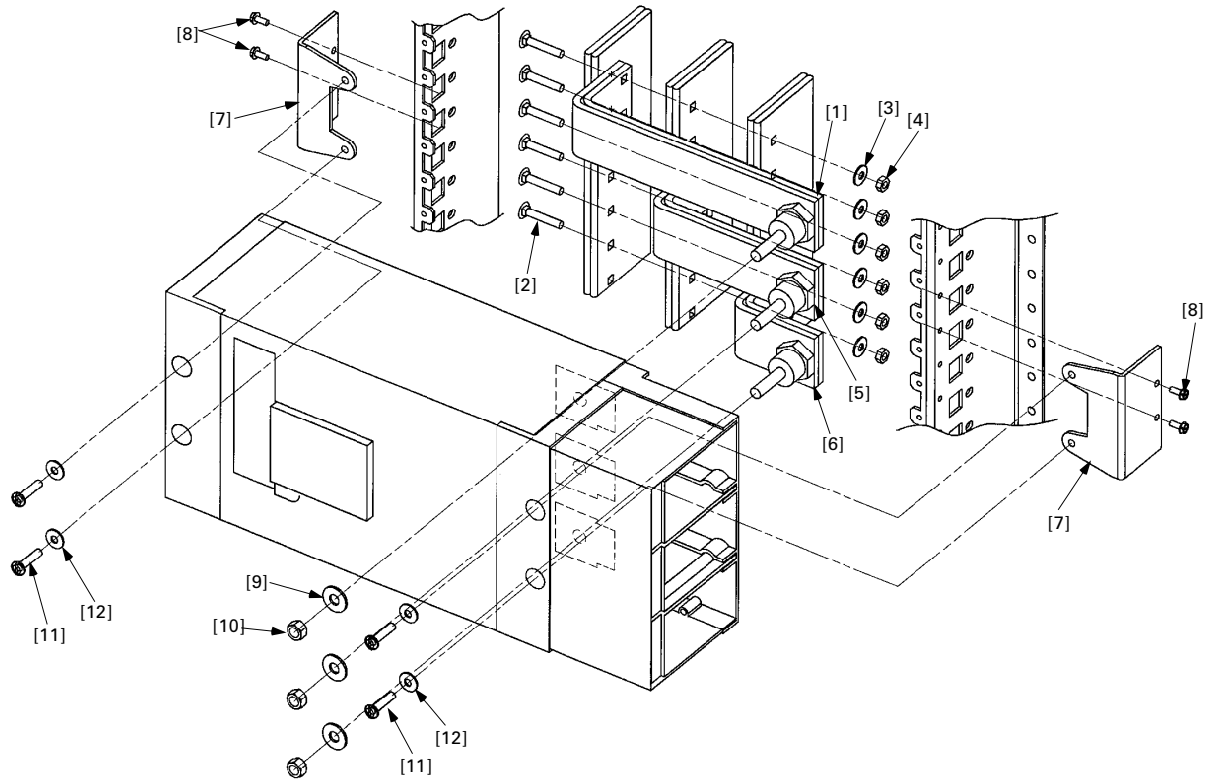

Figure 1. Mounting a K frame bolt-on circuit breaker, exploded assembly view.
- 3. Install the circuit breaker straps.** For three-phase applications (kit AMCB3KM), align the strap assemblies [1, 5, 6] with the corresponding holes in the vertical bus, as shown in Figure 1. Fasten each strap assembly loosely to the vertical bus with two carriage bolts [2], conical washers [3], and nuts [4].
For single-phase panels, dc applications, and phase-balancing purposes (kit AMCB2KM), Table 2 lists the possible configurations. Align the appropriate strap assemblies [1, 5, 6] with the corresponding holes in the vertical bus, as shown in Figure 1. Fasten each strap assembly loosely to the vertical bus with two carriage bolts [2], conical washers [3], and nuts [4].